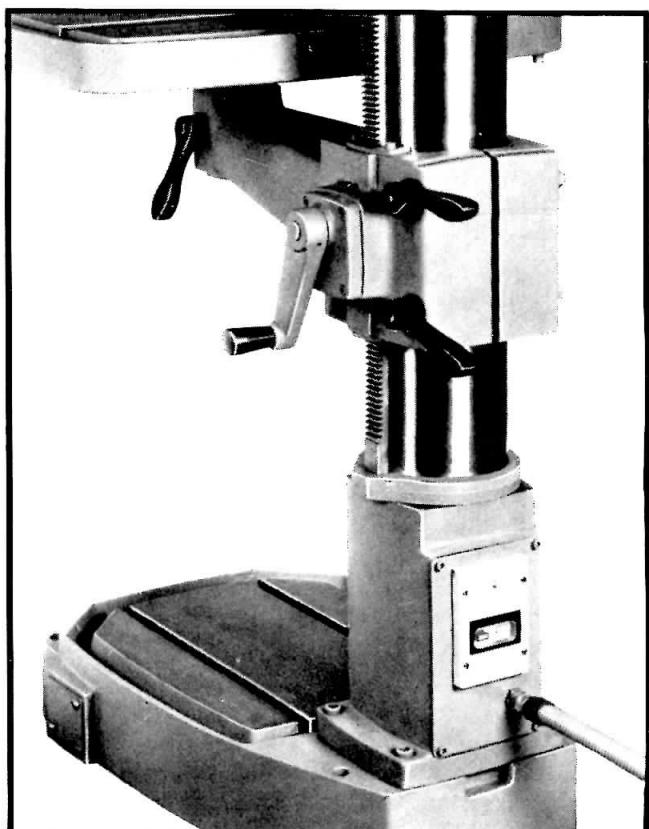

FIG. 3
1. Remove power disconnect switch (Fig. 3) at rear base of machine by removing four screws holding it closed.
## C — SPINDLE MECHANICAL FEED (FIG. 3)